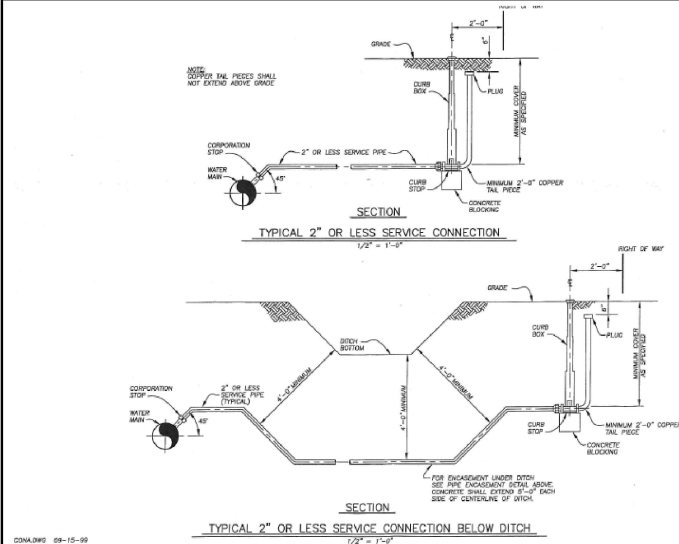
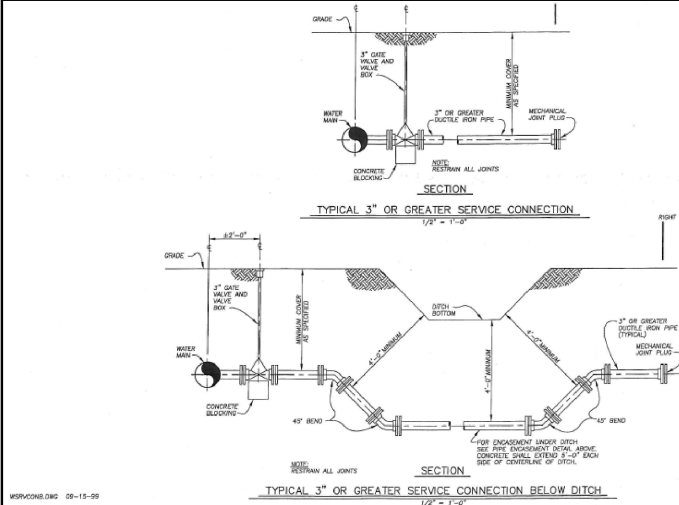

FIG 2.18.1
FIG 2.18.2
A. SERVICE CONNECTIONS - SERVICE CONNECTIONS SHALL BE 1 INCH FOR RESIDENTIAL SERVICES UP TO THE ROAD RIGHT-OF-WAY (SEE FIGURE 2.18.1) AND FROM THE RIGHT-OF-WAY TO THE METER SETTING. LOCATIONS OF SERVICE CONNECTIONS, WHEN SHOWN ON THE DRAWINGS, ARE APPROXIMATE ONLY. FINAL LOCATIONS WILL BE ESTABLISHED AT THE TIME OF CONSTRUCTION BY THE CITY OR A REPRESENTATIVE OF THE OWNER OF THE PROPERTY BEING SERVED. SERVICE CONNECTIONS SHALL BE INSTALLED PRIOR TO THE NEW MAINS BEING TESTED AND DISINFECTED AND PLACED IN SERVICE. FOR SERVICE CONNECTIONS GREATER THAN 2-INCH DIAMETER, SEE FIGURE 2.18.2.
SEE FIGURE 2.18.1 & FIGURE 2.18.2.
SERVICE PIPE SHALL BE OF TYPE K COPPER TUBE MEETING THE REQUIREMENTS OF ASTM B88, AND SHALL BE SOFT TEMPERED WHEN INSTALLED IN OPEN TRENCHES AND HARD TEMPERED WHEN INSTALLED BY PUSHING. FLARE TYPE UNIONS SHALL BE USED WITH THE COPPER TUBE. EACH SERVICE CONNECTION TWO INCH DIAMETER AND SMALLER SHALL BE PROVIDED WITH A TAIL PIECE OF COPPER AS SHOWN IN FIGURE 2.18.1.